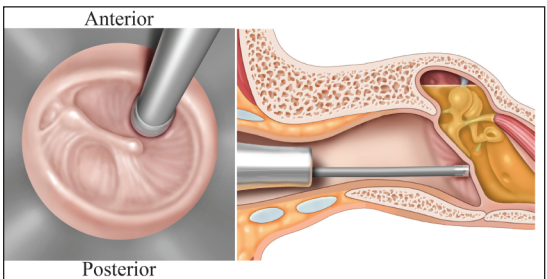

Figure 26. Positioning the TDS Against the TM
- e. Maintain apposition of the device against the tympanic membrane by applying gentle pressure on the TM until slight tension is felt (**Figure 26**). The Clear Tip should be perpendicular to and fully apposed against the TM. Avoid excessive pressure against the TM.